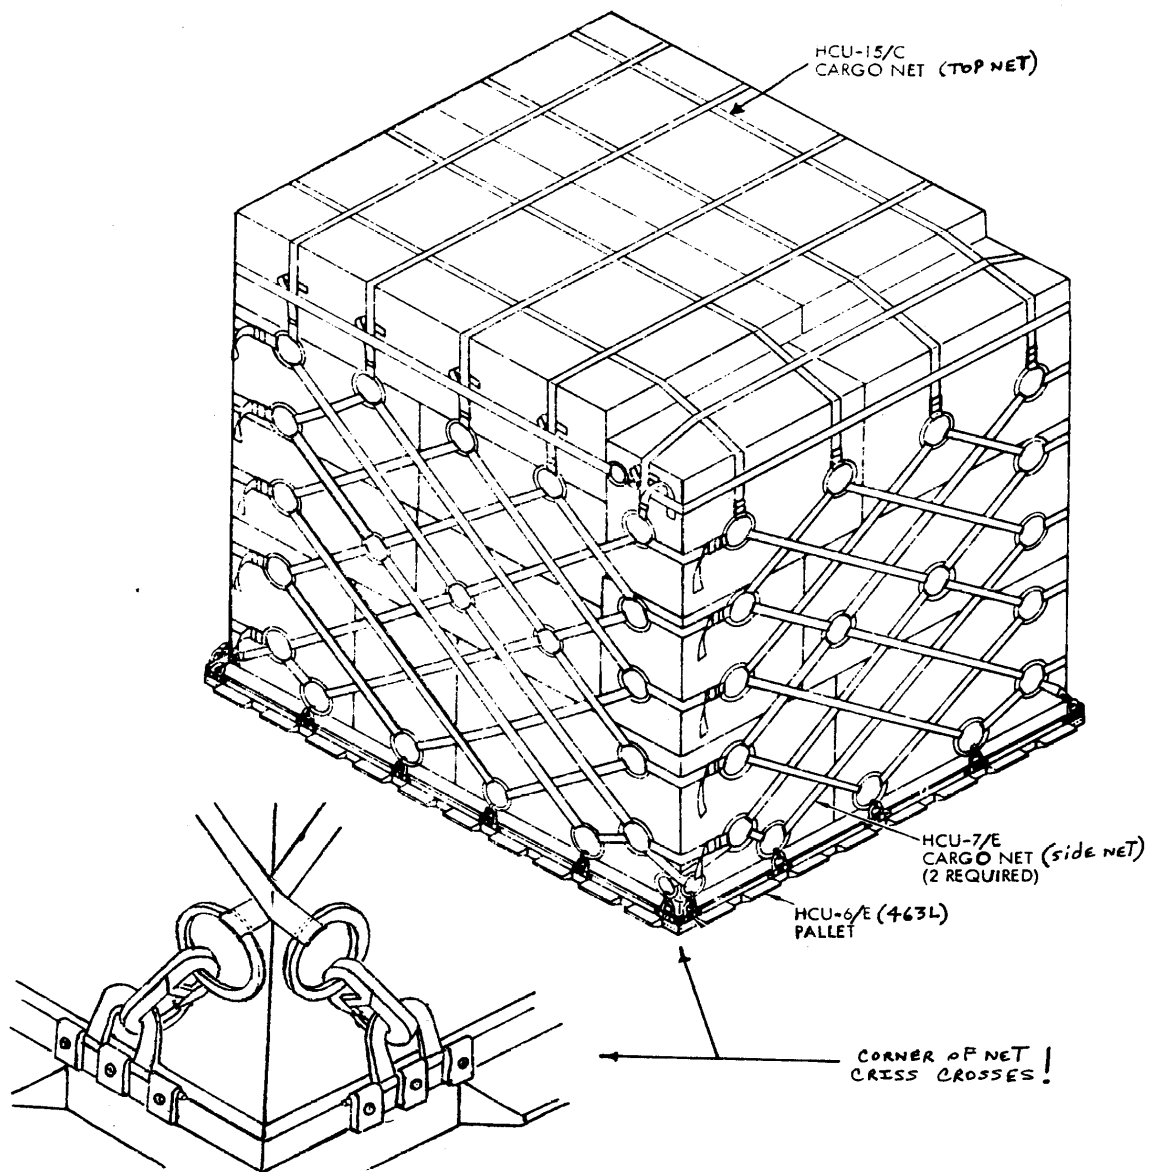

Figure 3
(1) Side nets. The side nets are green in color and attaches to the rings of the 463L pallet. When attaching the side nets to the corner of the pallet, ensure to cross the straps (see figure 3).